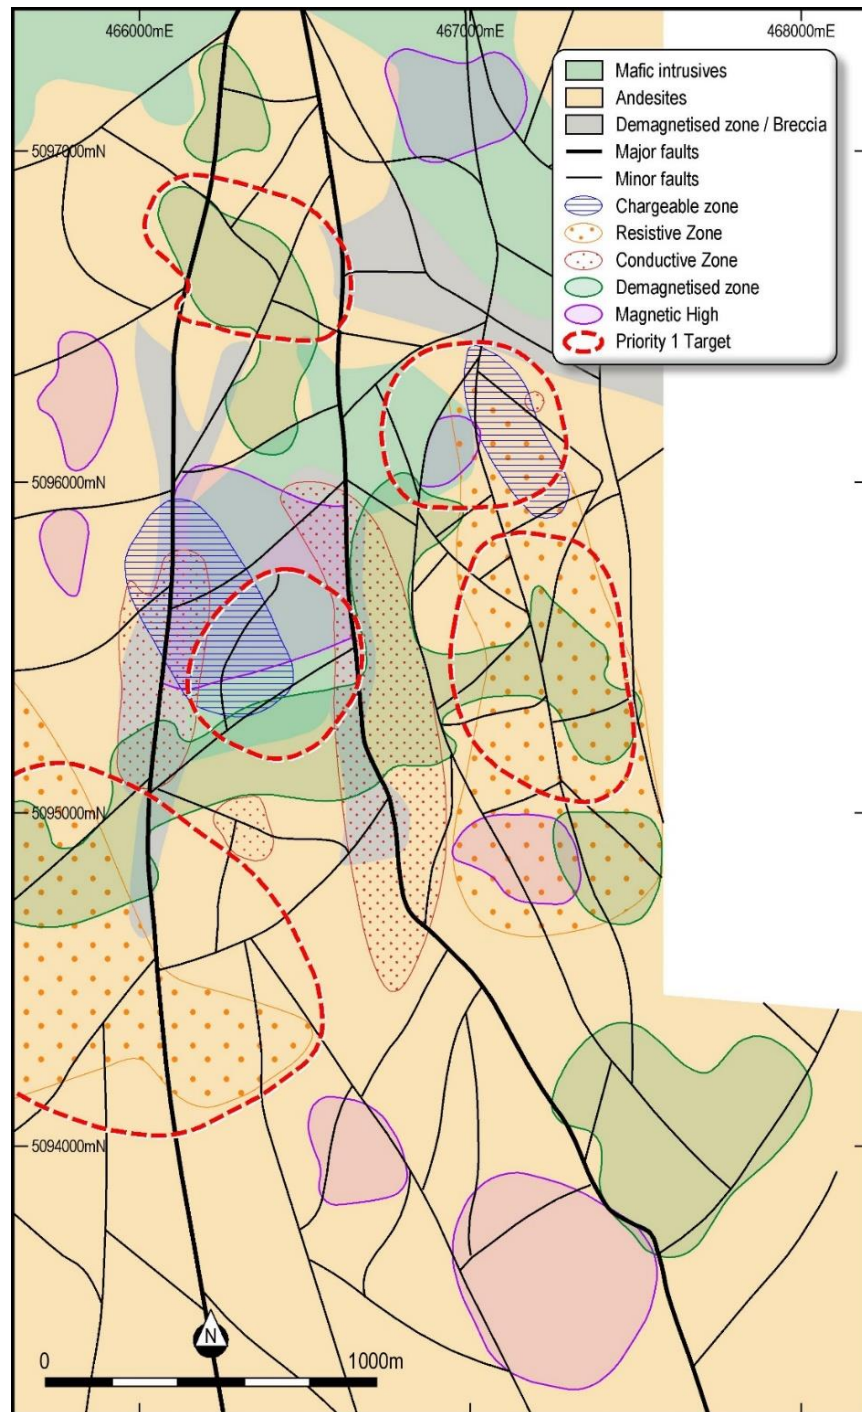

Figure 1: Geophysical interpretation has identified five high priority targets.
Piche Resources Limited (ASX: PR2) ("Piche" or the "Company"), is pleased to announce the completion of ground magnetic and induced polarisation (IP)/resistivity surveys over the La Javiela prospect on its Cerro Chacon project in the Chubut Province of Argentina (Figure 1). The surveys interpretation was undertaken by Southern Geoscience in Perth, Western Australia and has identified five additional high priority targets.
The geophysical interpretation has highlighted two major primary north-south orientated faults which are characterised by broad demagnetised zones with associated increases in conductivity, likely due to alteration zones. Cross-cutting these primary structures are swarms of northeast, northwest and east/west oriented secondary structures, which invariably host gold/silver mineralisation in low sulphidation deposits in southern Argentina (Figure 1). These target areas will be followed up with further geochemistry, geophysics and mapping prior to drilling.